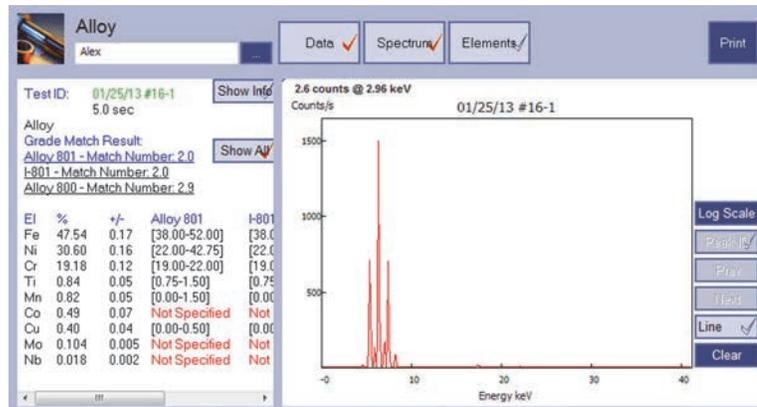
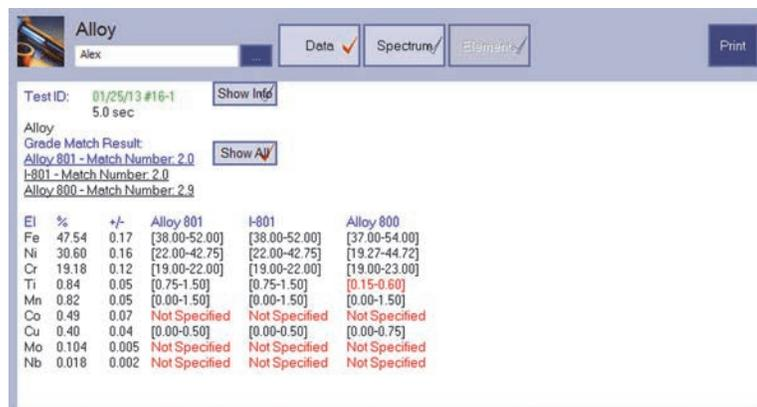

Figure 7-4 Show All enabled
Figure 7-5 Show All enabled and Spectrum display disabled
- To view all grade match results arranged side-by-side for better visual comparison, click **Show All** (see Figure 7-4 on page 99), and then click **Spectrum** to deactivate the spectrum display and expand the data display (see Figure 7-5 on page 99).